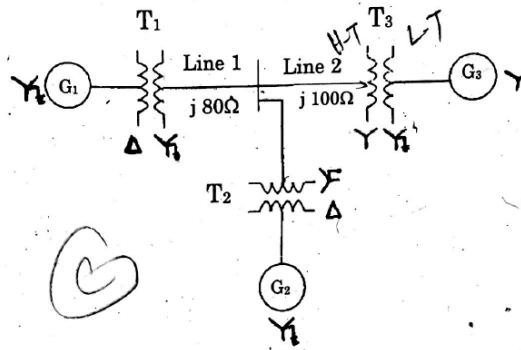

Fig. 1
11. (a) Draw the reactance diagram for the power system shown in fig. 1. Neglect resistance and use a base of 50MVA and 13.8KV on generator G_1